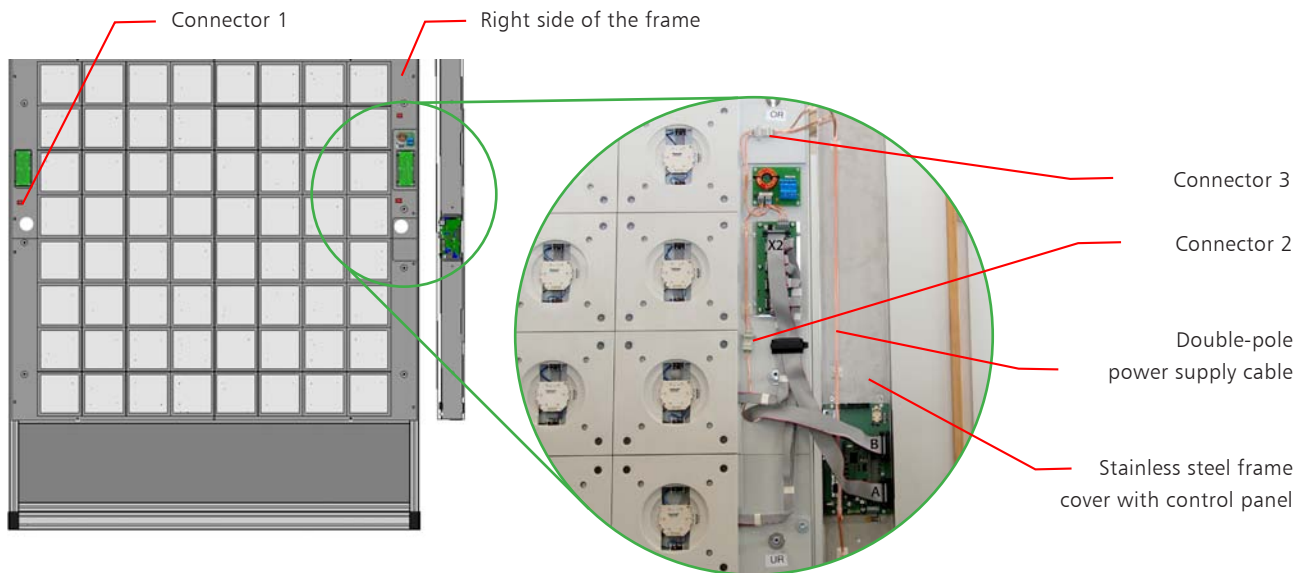

fig. 3.1-36
**ATTENTION PLEASE:** Connectors and cables are numbered and have to be connected in that exact order (**fig. 3.1-36**)!
**Step 27:** Now connect the power supply for the basic modules. For connector positions please see **fig. 3.1-36**. At first, connect connector 1 (upper left basic module) to connector 2 (upper right basic module below the manifold PCB). Following, connect connector 3 (upper right basic module above the line filter) to the control panel in the stainless steel frame cover **B2**.